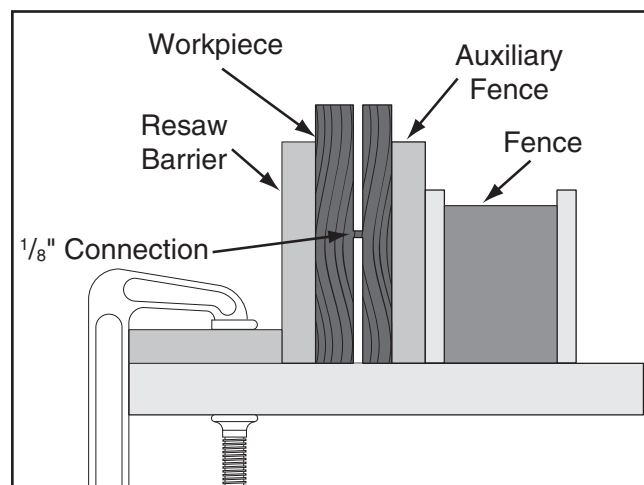

Figure 67. Ideal completed resaw cut.
10. Repeat **Steps 7–9** until blade is close to half height of board to be resawn. Ideal completed resaw cut will leave a $\frac{1}{8}$ " connection when resawing is complete, as shown in **Figure 67**. Leaving a $\frac{1}{8}$ " connection will reduce risk of kickback.